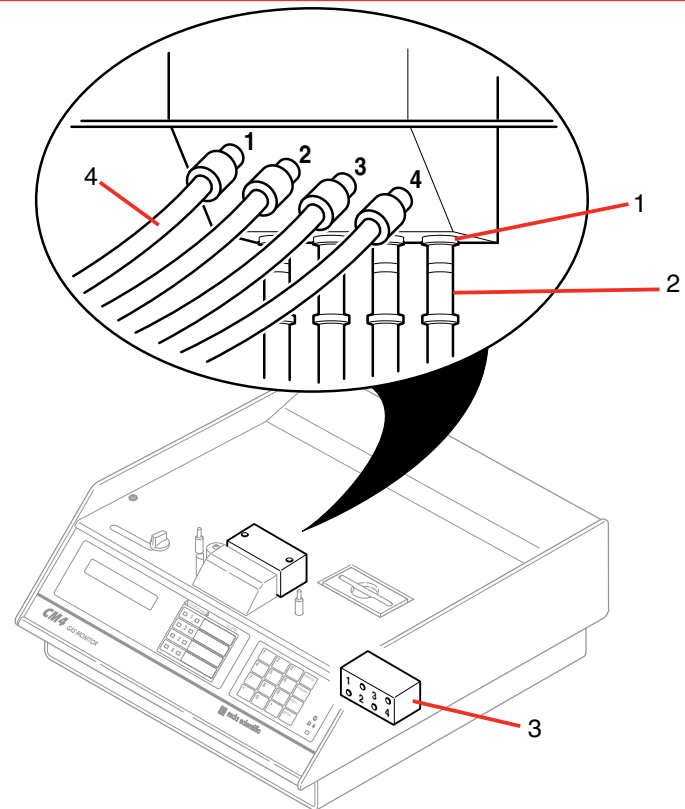

Figure 9-11: Microtube Assemblies
5. Release, then remove the pressure transducer port tubing from the optics block (see Figure 9-11).
2. Remove Microtube Assembly by unscrewing each end from optics block and filter manifold (3). See Figure 9-11